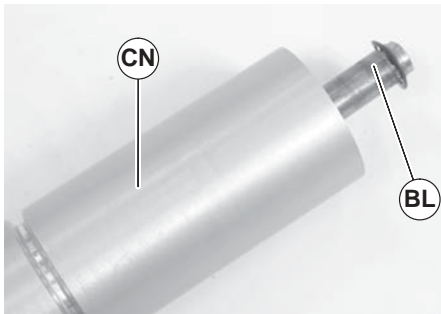

Figure 76
- Slide the shaft assembly (Figure 76, item BL) out of the pulley (CN).